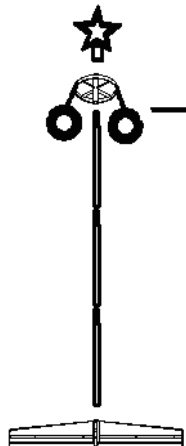

Figure 3
- Step 2: Insert the 3-sections center supporting tube into the hole at base frame; (Figure 3)
- Step 3: Insert the Star into the iron frame hole at the top of the lamp body; (Figure 3)
- Step 4: Insert the iron frame of lamp body into the center supporting tube; (Fig. 3)